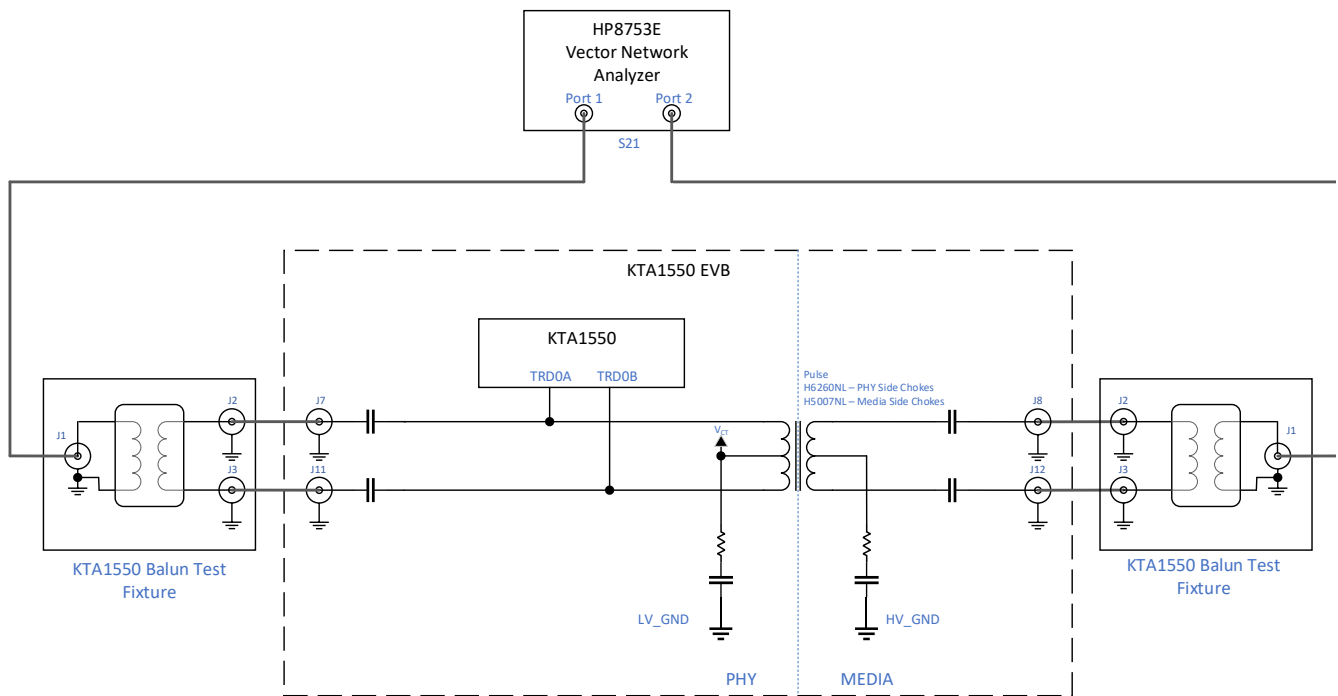

Figure 11: Vector Network Analyzer connection diagram for TRD0 insertion loss measurements
3. For Vector Network Analyzer connections and settings, refer to Figures 11, 12 and 13 for EVB connections: